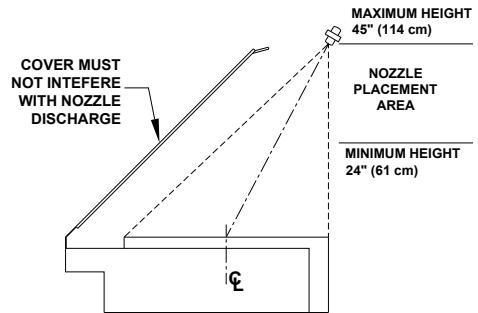

Figure 3-16.
The **Model N-2HP** nozzle is a two (2) flow point nozzle that can protect a tilting skillet / brazing pan with a maximum cooking area of 20.25" (51 cm) wide by 24" (61 cm) deep per nozzle. The nozzle must be located 24" (61 cm) to 45" (114 cm) above the cooking surface and located anywhere over the appliance cooking area. The nozzle must be aimed at the center of the cooking area. See **Figure 3-16**.